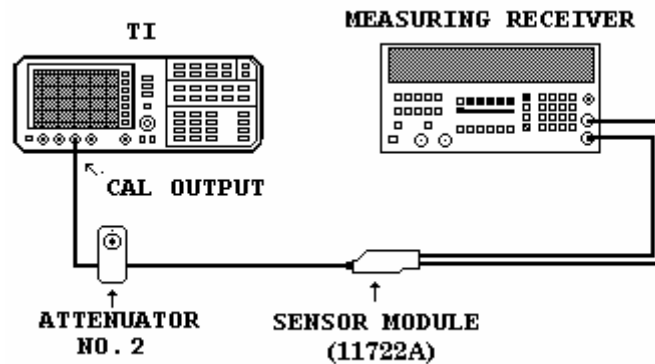

Figure 8. Marker amplitude accuracy test - equipment setup.
(5) Connect equipment as shown in figure 8.